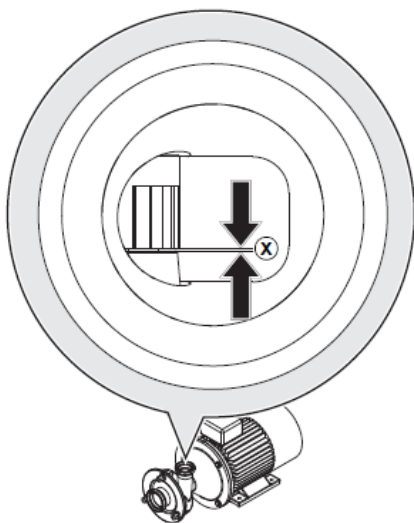

Fig. 24 Measurement of impeller–pump cover clearance
- Measure the clearance inside the pipe connection (discharge line). See Fig. 24 "Measurement of impeller-pump cover clearance".